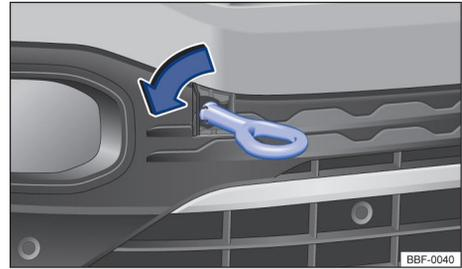

Fig. 166 On the right-hand side of the front bumper: screw in the towing eye.
- Install the towing eye **counter clockwise** into the housing → Fig. 166  as tight as possible → . Use an appropriate object to tightly screw the towing eye into the housing.